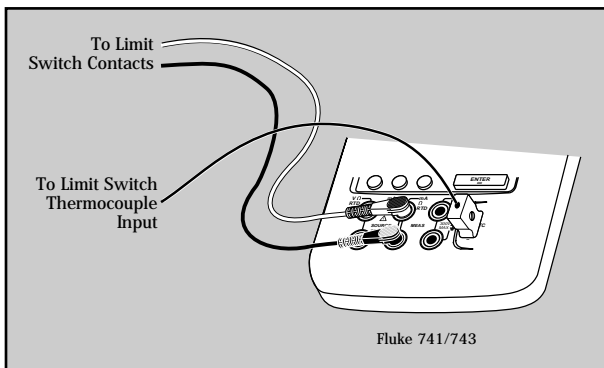

Figure 3.
3. Next, hook up the DPC per Figure 3.